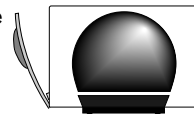

fig. 1
- **Always leave the door open to the stop position** (as shown in the figure 1).
When the function and the temperature controls are set to BROIL only the top element heats at full power. Be sure to leave door open to stop position only, as shown in the figure 1 on page 14. Set the broiling rack in the drip pan on the wire shelf in position 2 or 3 (see page. 7) so that the food is few inches from the top element. For thick foods such as chicken parts place the shelf in position 1. If necessary, the broiling rack can be inverted in the pan. The broiling rack shields the fat drippings from direct heat, reducing spattering, smoking and possible flaming. Always use the shallow pan when broiling any fatty foods.